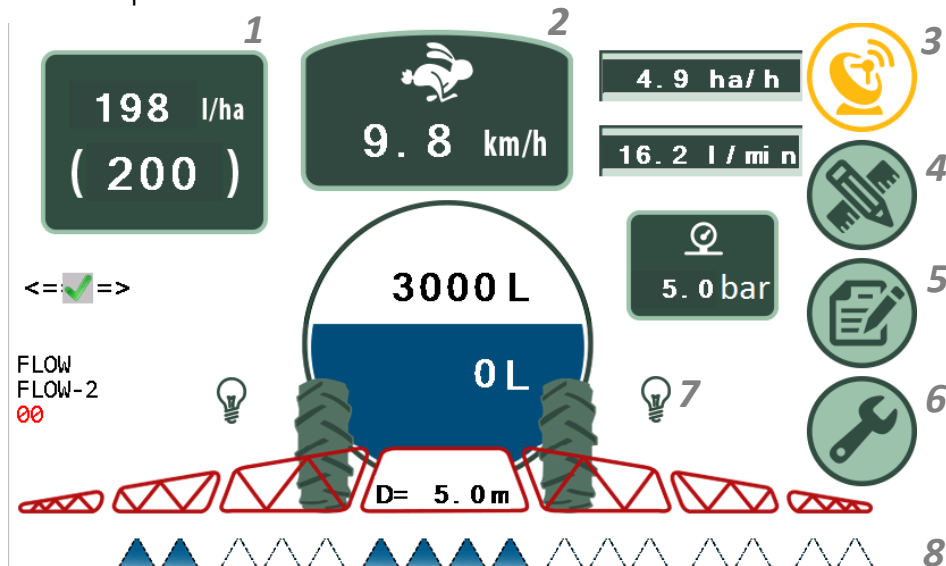

Figure 8
- The setup fields are used to enter the spray parameters (Figure 8).